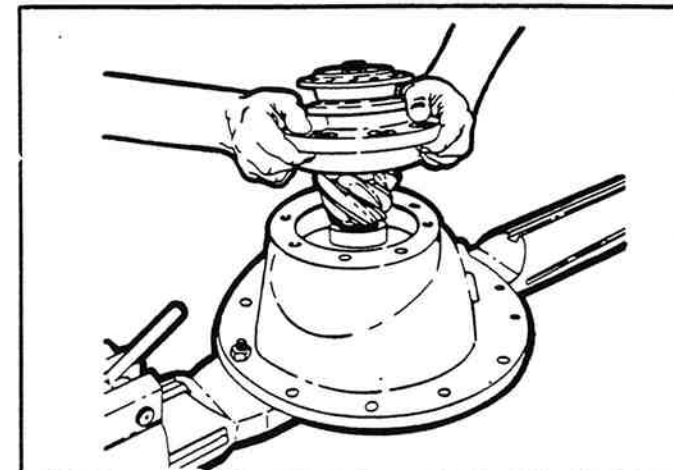

Figure 2-47. Placing Pinion And Cage Assembly In Carrier.
- Temporarily install the drive pinion and cage assembly in the carrier. Do not install shims under the bearing cage (Figure 2-47).
- Fasten a yoke or flange bar to the input yoke or flange. The bar will hold the drive pinion in position when the nut is tightened (Figure 2-47).